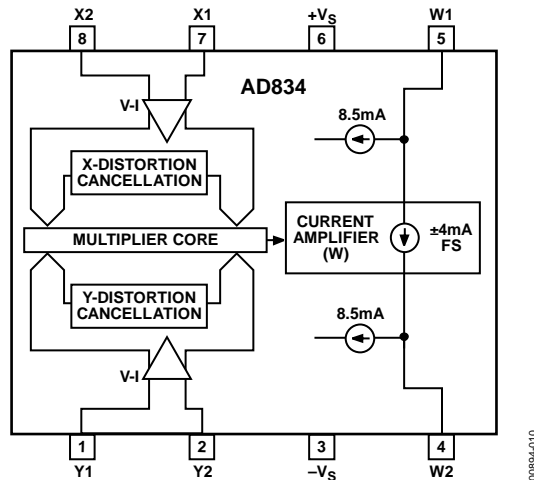

Figure 11. Functional Block Diagram
Figure 11 is a functional equivalent of the AD834. There are three differential signal interfaces: the two voltage inputs ($X = X_1 - X_2$ and $Y = Y_1 - Y_2$), and the current output (W) which flows in the direction shown in Figure 11 when X and Y are positive. The outputs (W_1 and W_2) each have a standing current of typically 8.5 mA.